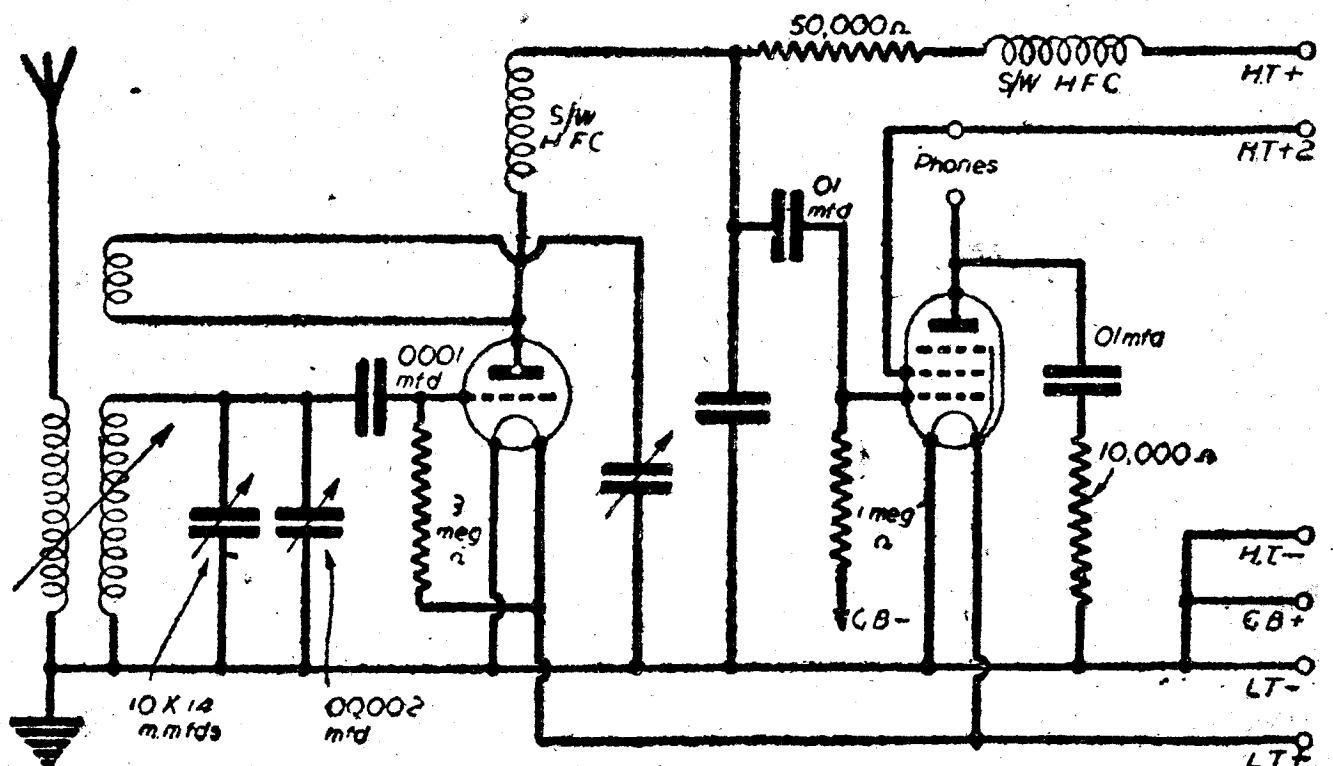

Fig. 4.—The complete diagram of the modified circuit which now forms an efficient two-valver.
The extra valve-holder is of the 5-pin baseboard mounting type, the filament terminals "X" and "Y" being linked up with those of the detector valve-holder. The original H.T. pos. lead is still used to supply the detector, but it will now be necessary to feed it with approximately 120 volts, owing to the anode load resistor of 50,000 ohms being in series. The H.T. pos. 2 should be taken direct to the 120 volt or 150 volt tapping, the latter if an eliminator is used. The recommended valve is the Cossor 220HPT, a high slope output pentode, but other makes of similar characteristics will be quite suitable. The lead marked G.B.—, connected to the 1 megohm grid-leak, is taken to the 4½ volt negative socket in a grid-bias battery, the positive socket of which is connected to the H.T., L.T. negative earth line. The complete circuit is shown by Fig. 4.